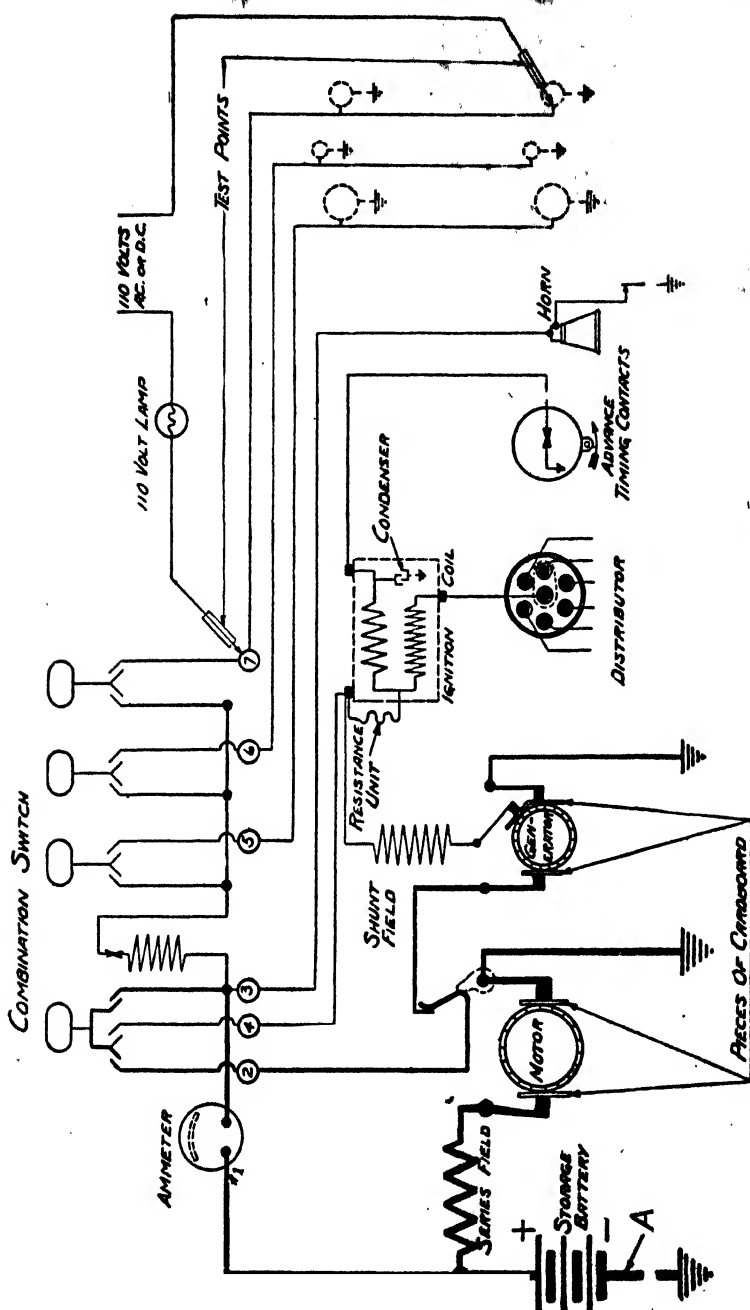

Fig. 260. Wiring Diagram Showing Method of Using Lamp-Testing Set for Discovering Breaks in Wires
*Locating Breaks in Wires.* Where the failure of the apparatus in a particular circuit makes it apparent that a wire, or lead, may be broken, it may be tested by placing one of the points on each end of the wire in question. The lighting of the lamp will indicate that there is a complete circuit through the wire, while its failure to light is evidence of a break in the wire. If at all difficult to locate the break, the easiest method of repairing it is to replace the wire with a new lead of the same size and type of insulation. The method of carrying out this last test is illustrated in Fig. 260 and it is naturally applicable to any of the wires, not only of this type of installation but of any other lighting and starting system. In making this test, care must be taken not to apply the points at places on the terminals where a ground connection will result, as this will complete the circuit through the lamp without the current passing through the wire supposedly under test. This method of locating grounds, short-circuits, or open circuits will be found much better than the use of a buzzer, bell, or magneto, and it is recommended wherever a 110-volt current is available. However, where it is not available, a lamp, bell, buzzer, or the portable voltmeter may be used in connection with the storage battery on the car, after detaching its usual connections to the system.